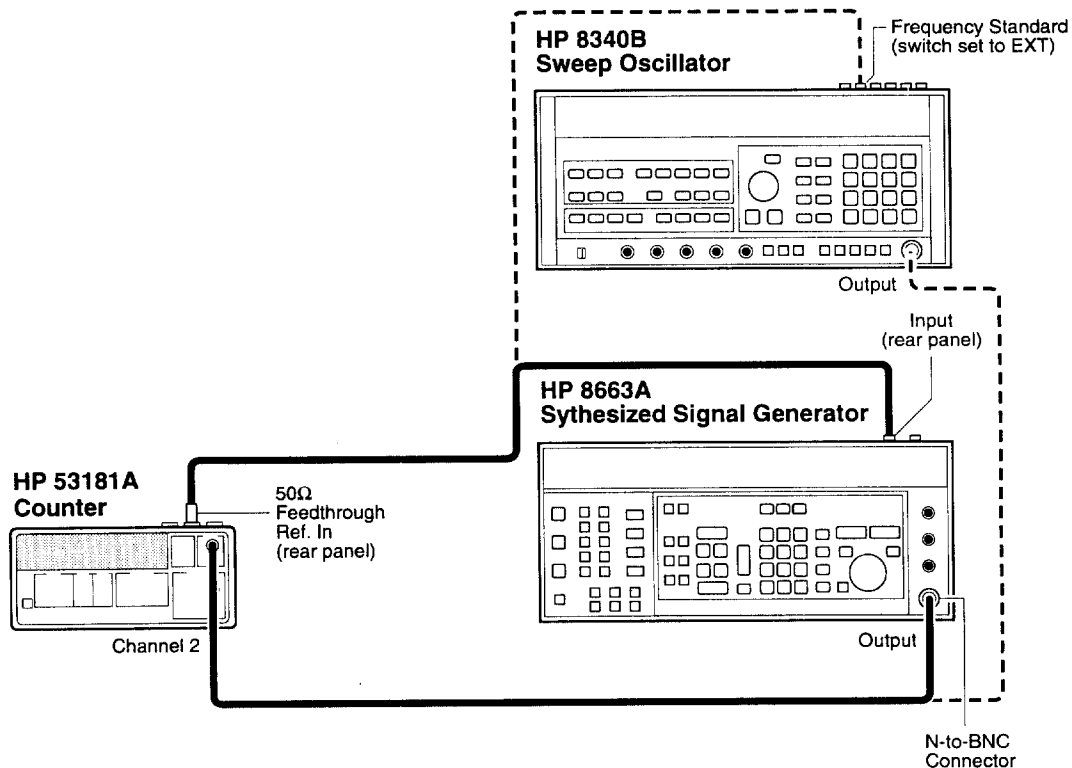

Figure 1-15. Option 015/030/050 Channel 2 Frequency Test
- 1 Set the HP 8663B Synthesized Signal Generator to output a 500 MHz, -60 dBm sine wave and connect the signal to Channel 2 of the Counter as shown in Figure 1-15.**
- 1 Set the HP 8663B Synthesized Signal Generator to output a 500 MHz, -60 dBm sine wave, and connect the signal to Channel 3 of the Counter as shown in Figure 1-15.**
- 1 Disconnect the HP 8663A Synthesized Signal Generator from the Counter (see Figure 1-15), and connect the HP 8340B Sweep Oscillator to Channel 3 of the Counter.**